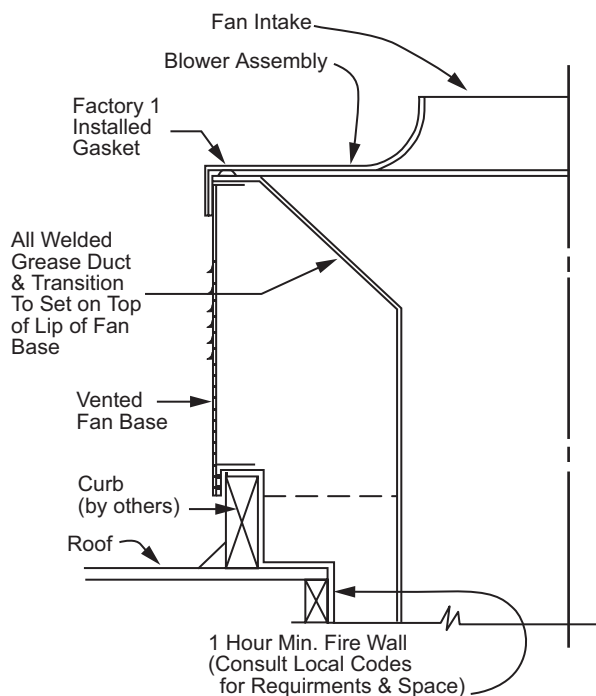

Figure 1
The all welded steel duct (by others) can now be set (see Fig. 1). Drop prefabricated grease duct through opening in base. Flanges on duct transition must set on lip of base to hold duct in place. Do not terminate grease duct below vented fan base.
**NOTE:** If the ductwork assembly is designed and installed as shown in Fig. 1, no fasteners will be required to secure the fan base into place.